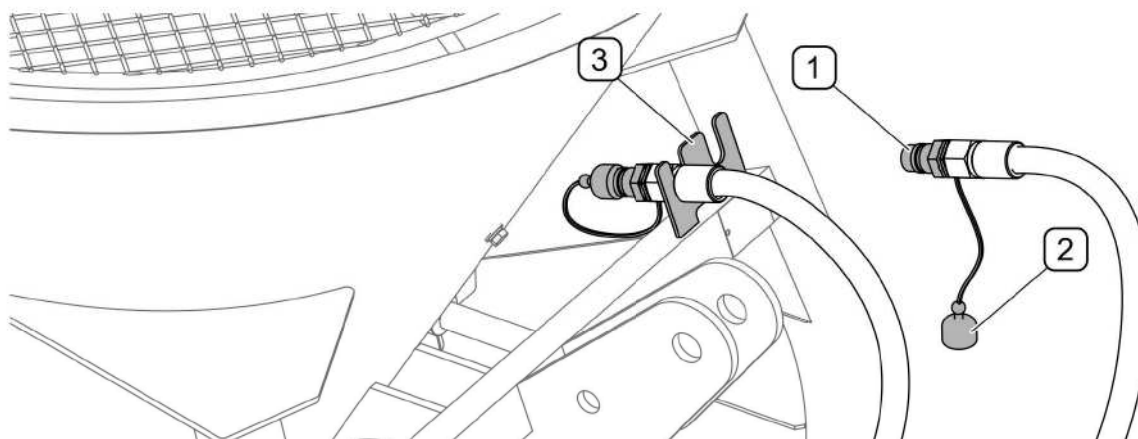

FIG. 4.9 Protection of hydraulic quick coupling plugs
- Disconnect hydraulic conduit plugs from tractor and secure with stoppers and place in special bracket (FIG. 4.9) on the frame (*refers to the sand spreader with hydraulic drive system*).